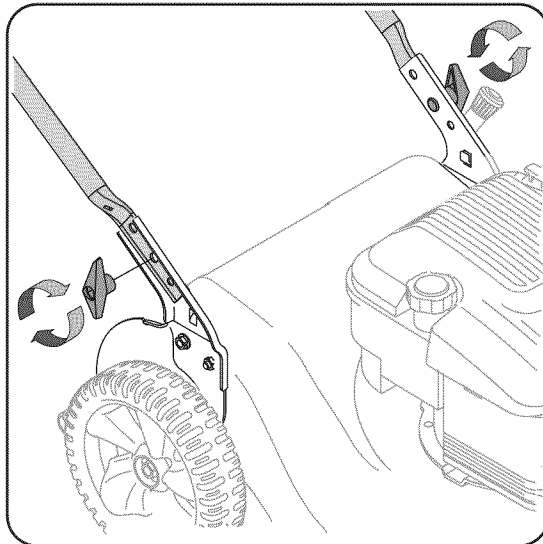

Figure 2
2. Replace and tighten hand knobs removed earlier securing lower handle to handle brackets. See Figure 2.